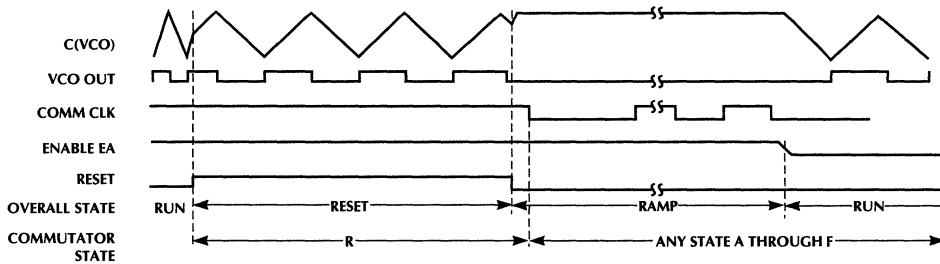

Figure 5. Start up sequencing (from stop)
- STEP 1 The IC is held in reset state until the platters are steady by setting pin 17 and pin 19 to a '1', with full power applied to the winding (see figure 5). This aligns the rotor to a position which is 30° (electrical) before the center of the first commutation state. Pin 20 is held at 0.5V internally. Microprocessor needs to measure VCO frequency by setting pin 27 to a '1' and then store it.